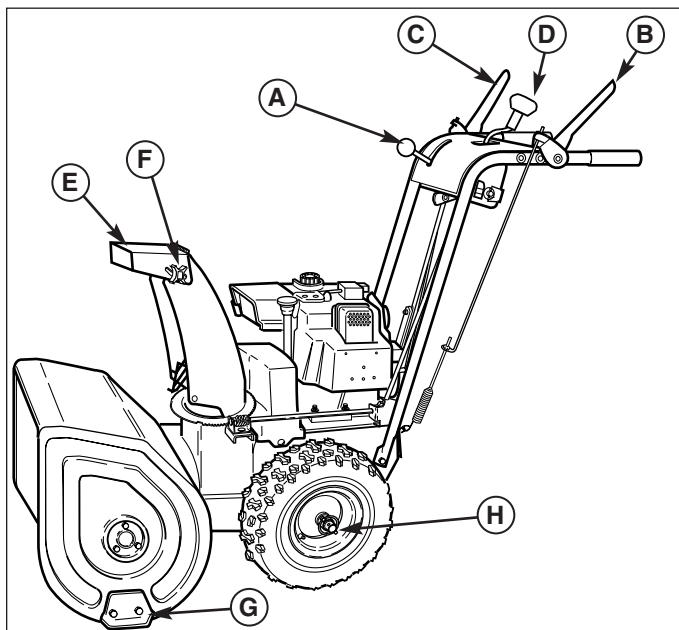

Figure 3. Snowthrower Controls
G. Scraper Bar Height Control - The Skid Shoes (G, Figure 3) control the height the scraper bar (located at the bottom of the auger housing). The scraper bar allows smooth surfaces (such as concrete or asphalt driveways) to be scraped clean of snow. On surfaces such as gravel, the scraper bar should be adjusted higher — so that it will not pick up gravel or debris.
H. Traction Lock Pins - The traction drive to each wheel can be locked and unlocked with the Traction Lock Pins (H, Figure 3) to permit the unit to "free-wheel," allowing easier manual handling and transport of the snowthrower.
8. Check the chute deflector (E, Figure 3) for proper operation. The deflector should pivot freely up and down when the chute deflector knob is loosened. If adjustment is required, see the Adjustments Section for procedures.